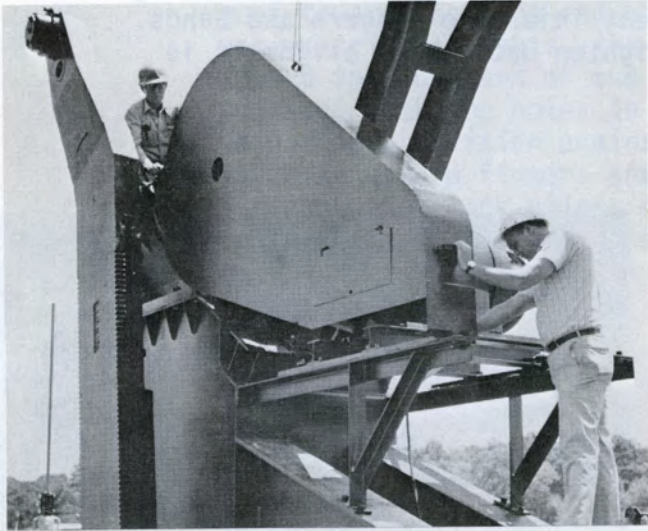

Figure 31
27. Figure 31 - Install Belt Cover